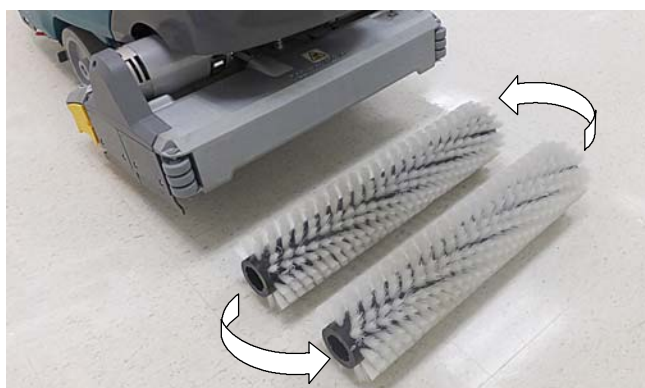

FIG. 112
3. Cylindrical brushes - Rotate brushes from front to rear (Figure 112). Replace brushes when they no longer clean effectively.